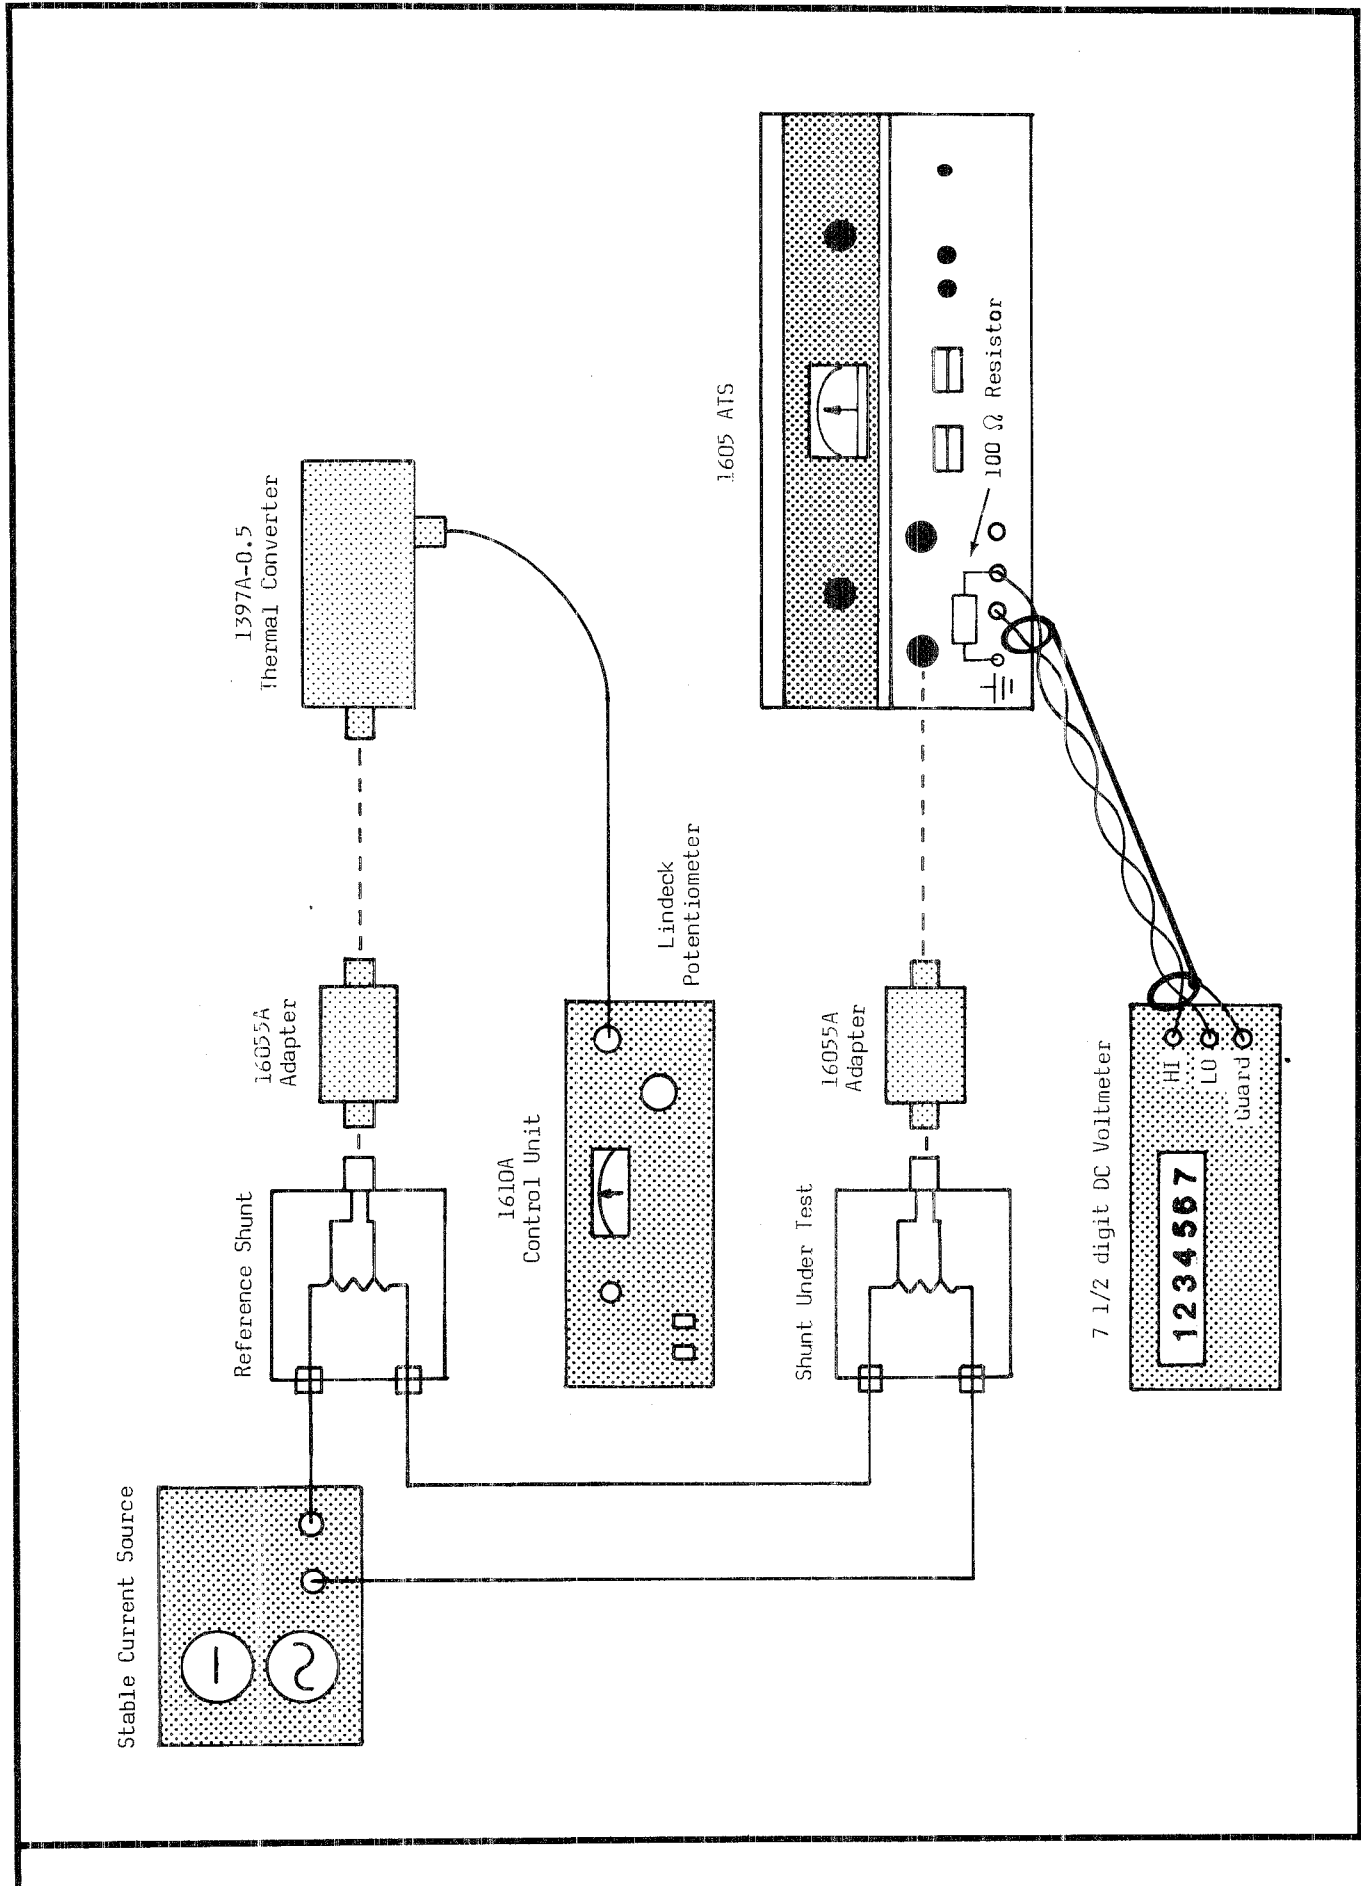
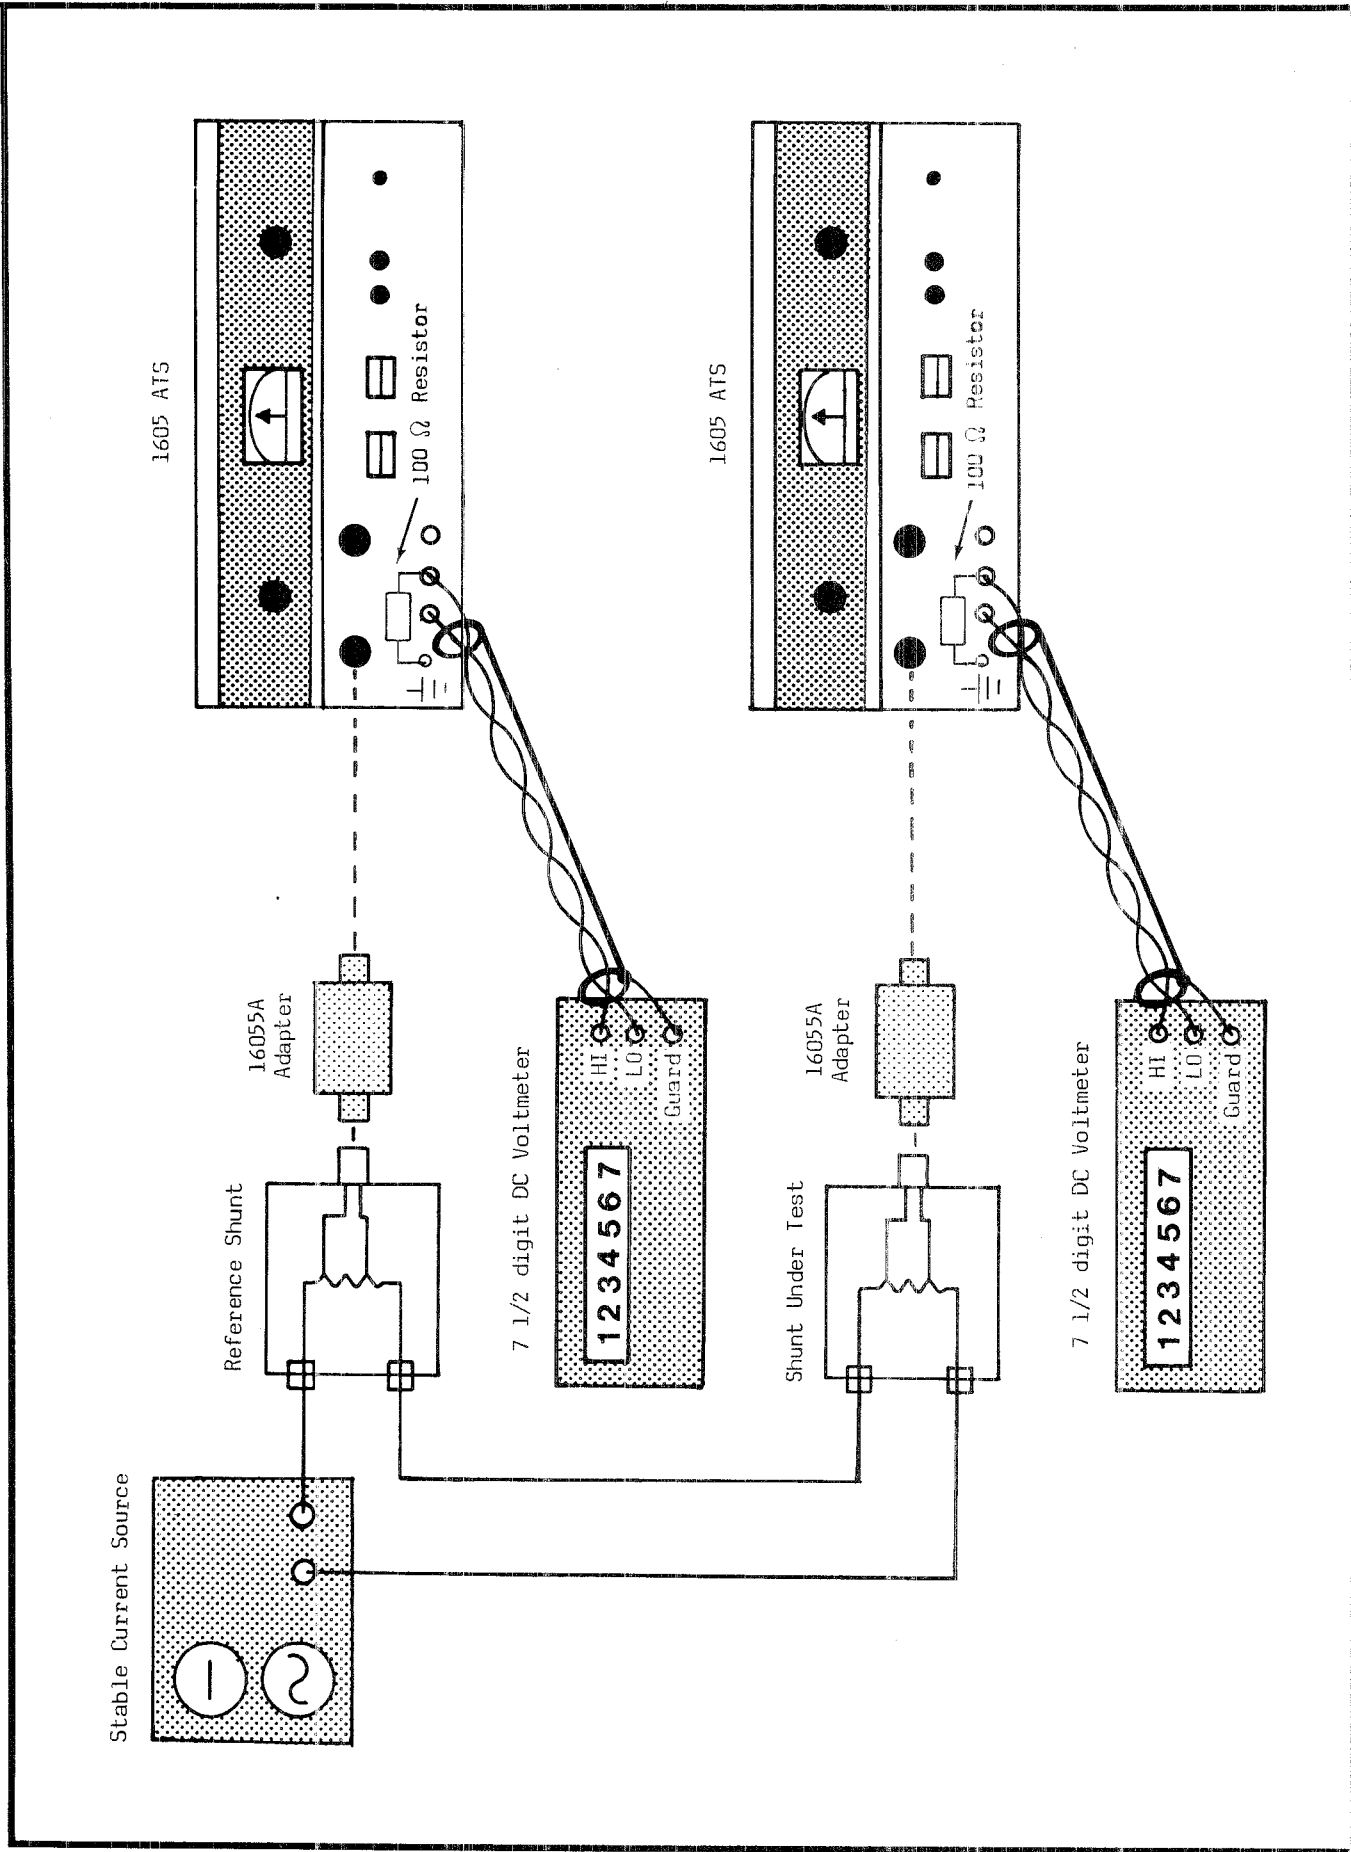

Figure 3-11. Calibrating AC/DC Difference of a Current Shunt
Figure 3-12. Calibrating AC/DC Difference of a Current Shunt (Alternate Method)
b. Connect the test set-ups shown in Figure 3-11 or Figure 3-12. Use the test set-up of Figure 3-11 if two 1605 ATSs are available or switch one ATS from the reference shunt to the shunt under test (UUT) if the system components are very stable. The 1605 ATS connected to the reference shunt is used only to precisely monitor the constant ac output of the reference shunt. Figure 3-12 depicts a test set-up using a Ballantine 1397A-0.5 Precision Coaxial Thermal Converter to monitor the constant ac output of the reference shunt. A Lindeck Potentiometer such as the Ballantine Model 1610A control unit or a stable digital voltmeter with 1 microvolt or 100 nanovolt resolution may be used to monitor the output from the 1397A-0.5 Thermal Converter.
d. The following procedure is offered as an example for calibrating the ac/dc difference of passive shunts such as the Fluke A40 and A40A Series. The test set-up of Figure 3-12 will be used in the following test procedure.